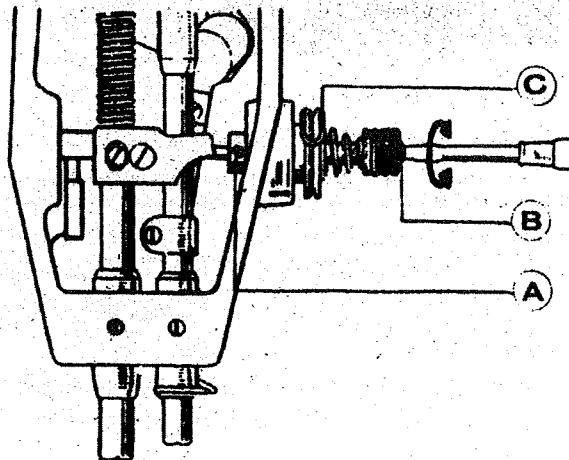

Fig. 26
#### (1) Adjusting the thread take-up spring tension (Fig. 26)